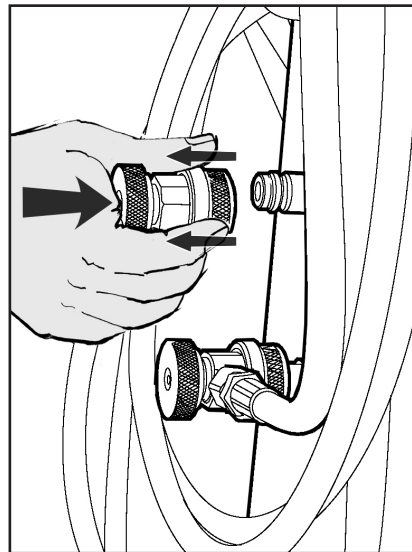

Fig. 8: Unfastening quick-release coupling
- ❶ The service quick-release couplings are connected to the service connections of the vehicle air conditioning system during A/C service. When not in use, the service quick-release couplings can be connected to the parking/flush couplers.
- ❷ To remove the service quick-release couplings from the parking/flush coupler, (Fig. 8), press the coupling slightly towards the connection and carefully pull the knurled section back to unfasten it from the coupler.